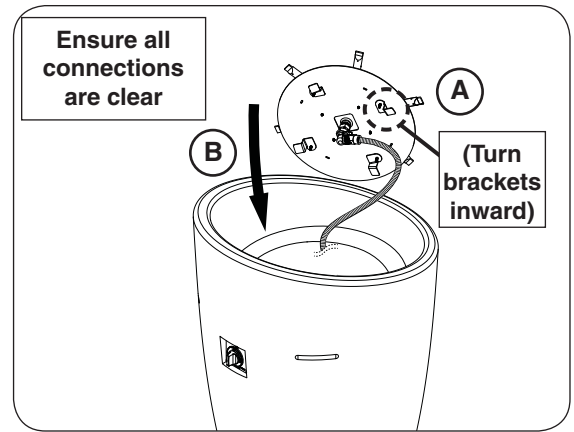

Fig. 17-1 Insert burner assembly
1. Ensure that the four burner brackets are turned inward, then insert the burner assembly (see Fig. 17-1, A-B).
Replace the storage door (that was previously removed during the assembly section). Ensure the door is secure in place (see Fig. 17-1). Door design may vary.